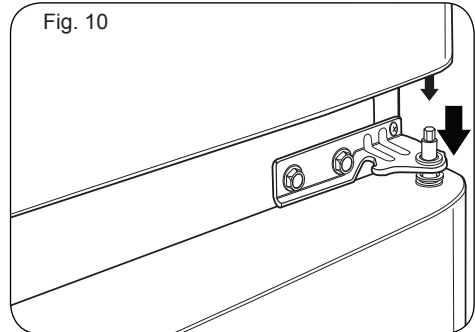

Fig. 10
- Set the freezer door onto the Middle Hinge pin (Figure 10).